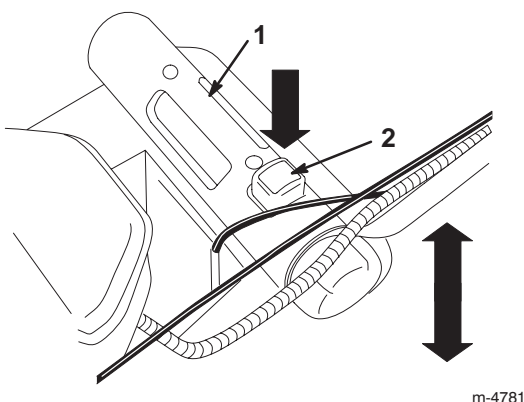

Figure 13
4. Press down on the red button and hold the cutting height adjustment handle to move the cutting height up or down (Fig. 13).